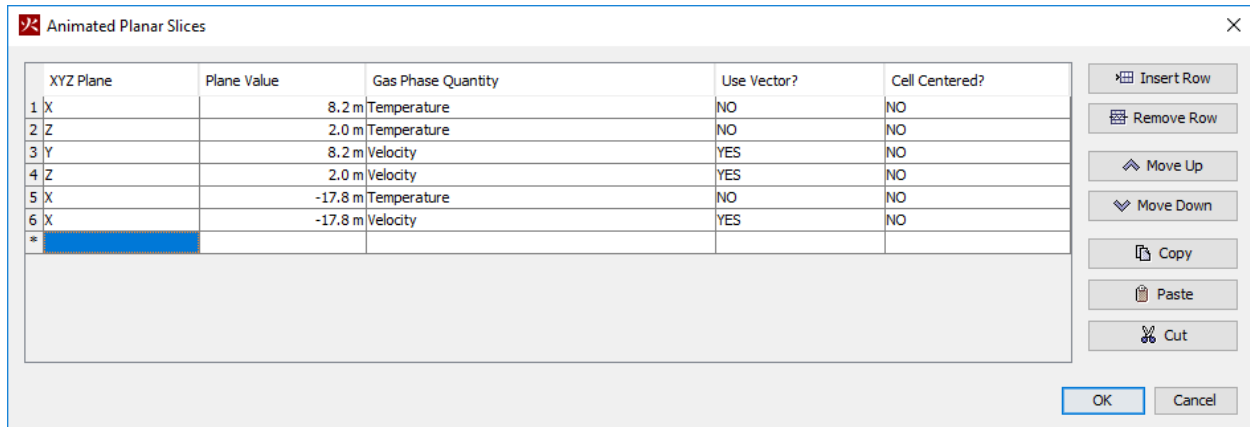

Figure 5: Defining the slice plane plots.
2. Enter slice planes as shown in Figure 5.